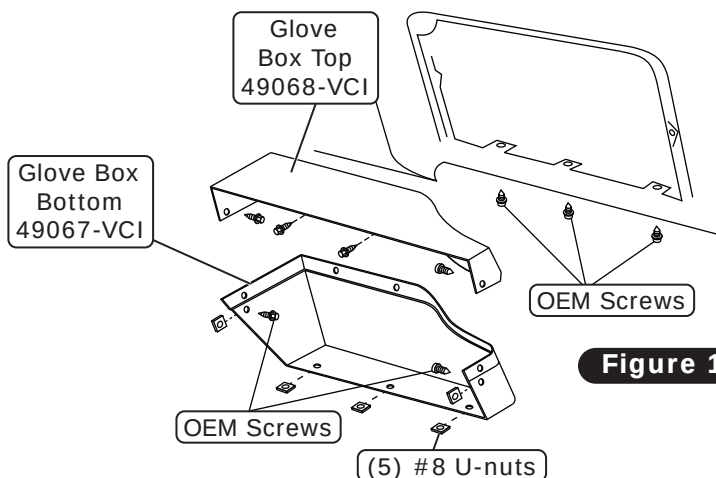

Figure 1
1. The new glove box is made in (2) pieces for easy installation. Install (5) #8 U-nuts in the glove box bottom.
2. Insert the bottom half of the new glove box, securing with only one OEM screw on each side through the dash holes (See Figure 1, below).
3. Insert the top half of the glove box and fasten to the bottom half using (4) #6 x 3/8" pan head screws (See Figure 1, below).
4. Install the glove box door using (3) OEM screws as shown in Figure 1, below.